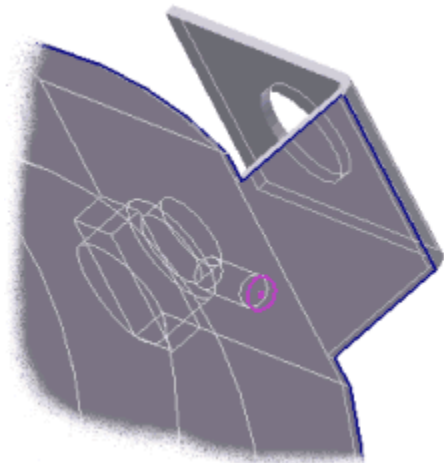

Figure 24: Projected edge from tapped hole.
7. Project the tapped hole edge from the ring as shown in Figure 24.